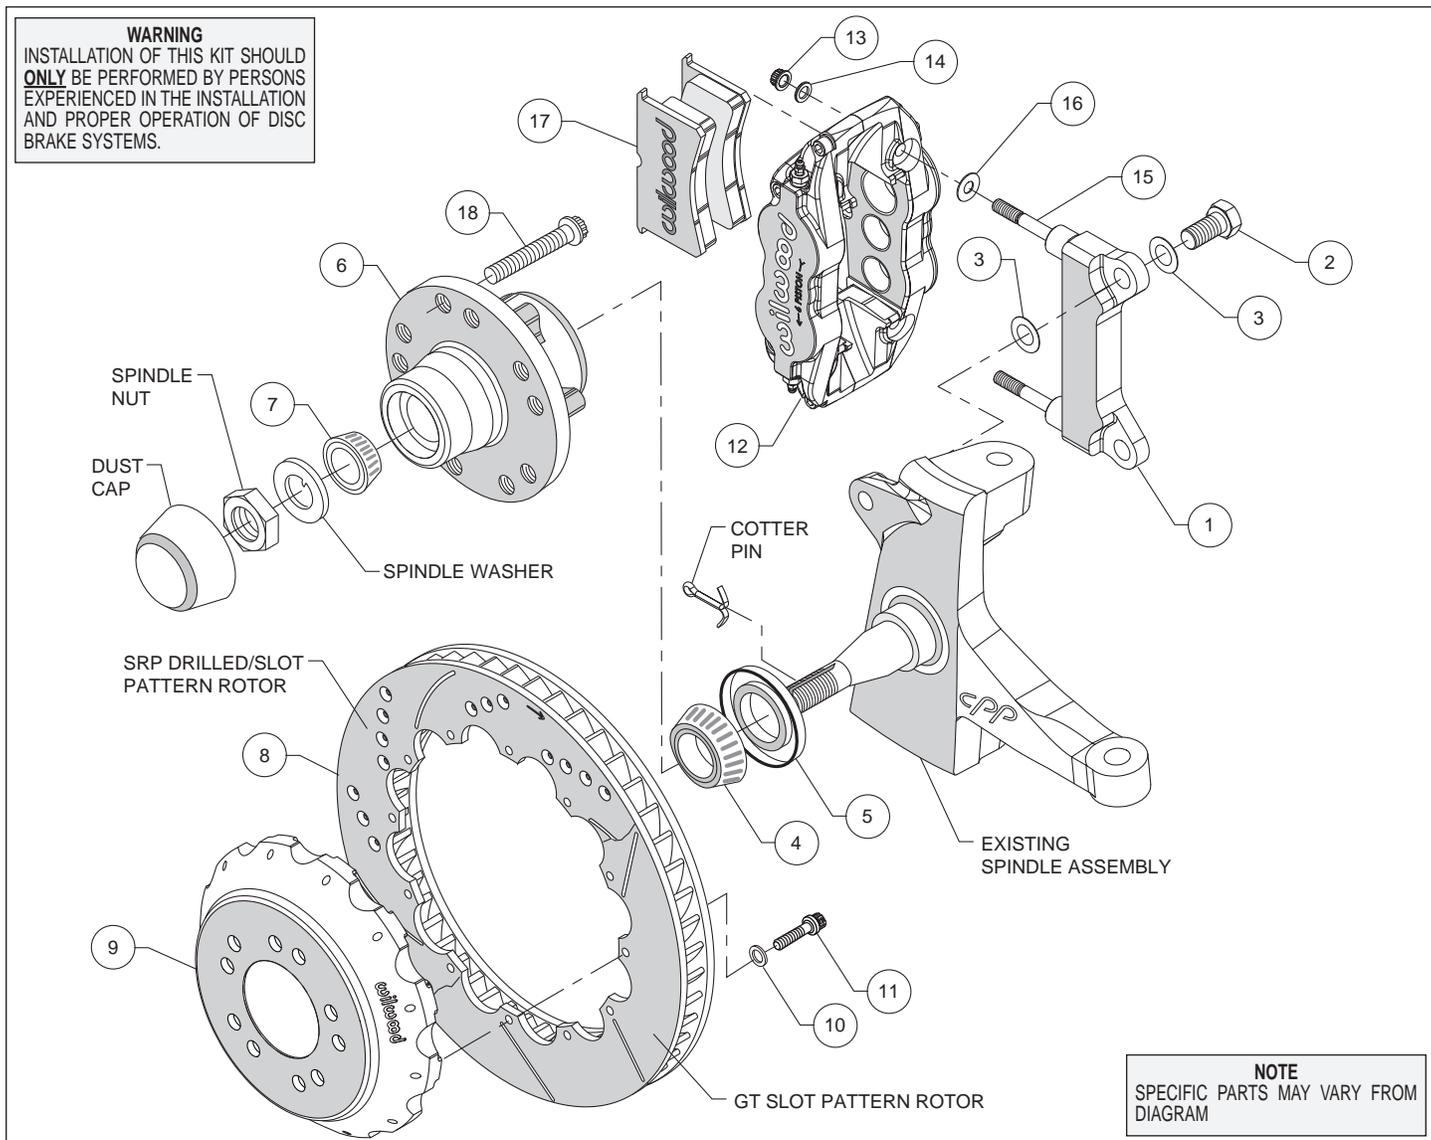
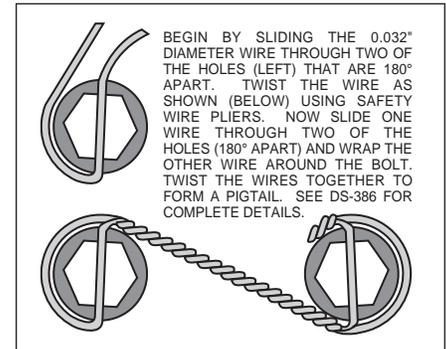

Figure 1. Typical Installation Configuration
Figure 3. Safety Wire Diagram
- The caliper mounting bracket assembly (1) should be installed first with clean, dry threads on the mounting bolts. Install the bracket on the inboard side of the spindle by sliding bolt (2) through washer (3), and through bracket (1) from the back side of spindle. Place shim washer (3) between the bracket (1) and the spindle (see Figure 1). The bracket must tighten squarely against the side of the spindle body. Inspect for interference from casting irregularities, machining ridges, burrs, etc. Use two shim washers (3) between the bracket (1) and spindle during initial trial fitting.
- Install wheel studs (18) into the hub (6). Torque to 77 ft-lb. **NOTE:** *There are two five lug patterns in the hub (5 x 4.75 and 5 x 5.00).* Ensure the correct hub stud pattern is being used to fit the wheel application.
- Pack the large inner bearing cone (4) with high temperature disc brake bearing grease (available from your local auto parts store) and install into the backside of the hub (6).
- Install the grease seal (5) into the backside of the hub (6).
- Pack the small outer bearing cone (7) with high temperature disc brake bearing grease and install into front side of the hub (6). Slide the hub assembly (4, 5, 6 and 7) onto the spindle. Secure using spindle washer, adjusting nut, and nut locking device. Adjust wheel bearing pre-load per Original Equipment Manufacturer (OEM) specifications.
- With the larger I.D. side of the rotor (8) facing away from the hat (9), bolt rotor (8) to hat (9) through the backside of the rotor using bolts (11), and washers (10). Using an alternating sequence, apply red *Loctite*® 271 to the threads and torque bolts to 155 **in-lb**. For an added measure of security, the bolts may be safety wired using standard 0.032 inch diameter stainless steel safety wire as shown in Figure 3. Please refer to Wilwood's data sheet DS-386 (available at [www.wilwood.com/Pdf/DataSheets/ds386.pdf](http://www.wilwood.com/Pdf/DataSheets/ds386.pdf)) for complete safety wire installation instructions.
- **NOTE:** *This kit contains distinct right and left hand calipers that must be mounted in a specific direction, as described below.* Lubricate the caliper mounting studs (15) with lightweight oil. Initially place two .035" thick shims (16) on each stud as shown in Figure 1. Mount the caliper (12) onto the bracket (1) using lock nuts (13) and washers (14), Figure 1. Ensure that the caliper is mounted so that the largest pistons are at the rotor exit end of the caliper, in relation to the direction of rotor rotation. Temporarily tighten the lock nuts and view the rotor through the top opening of the caliper. The rotor should be centered in the caliper. If not, adjust by adding or subtracting shims (3) between the bracket and the upright. Always use the same amount of shims on each of the two mounting bolts.
- Remove the caliper center bridge pad retainer bolt, nut, and tube from the caliper. Slide the brake pads (17) into place. They should install easily without interference. Check that the outside radius of the brake pad is aligned with the outside diameter radius of the rotor face. Add or subtract shims (16) between the caliper and mount bracket to gain the proper alignment. Reinstall the center bridge pad retainer tube, bolt, and locknut. The locknut should be snug without play in the bolt or tube. Be cautious not to over tighten.